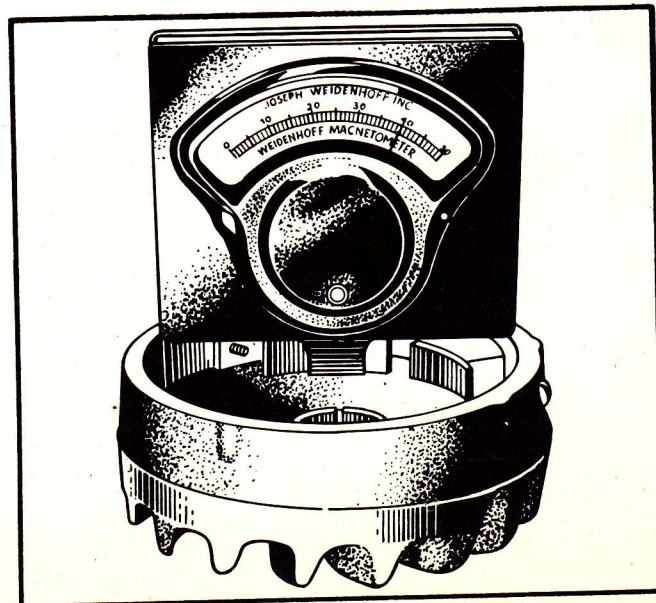

Figure No. 13
2. A dubious magnet can be checked on a magneto-meter as shown in Figure No. 13).